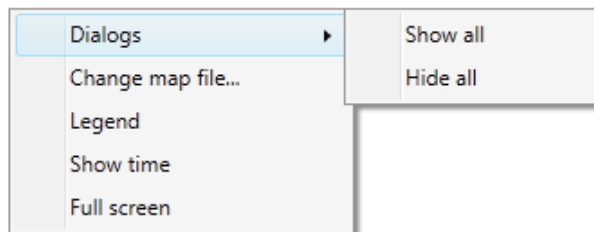

Figure 3-69: Display options
- For other display options as shown in Figure 3-69, right click on the map.